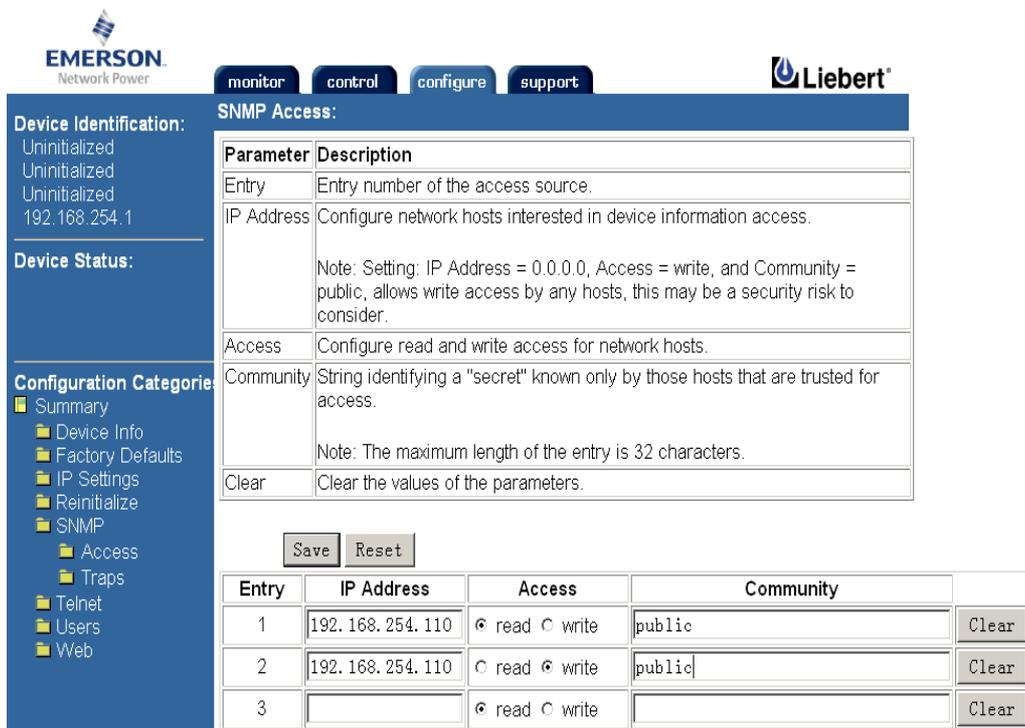

Figure 6-12 NMS configuration interface of SNMP host monitoring center (1)
4. Configure the **Network Management System (NMS)** of the host monitoring center in Figure 6-12. Click the **Edit** button and type the IP address of the NMS in **IP Address**. Select the 'read' or 'write' in **Access**, type 'Public' in **Community** and then click the **Save** button.